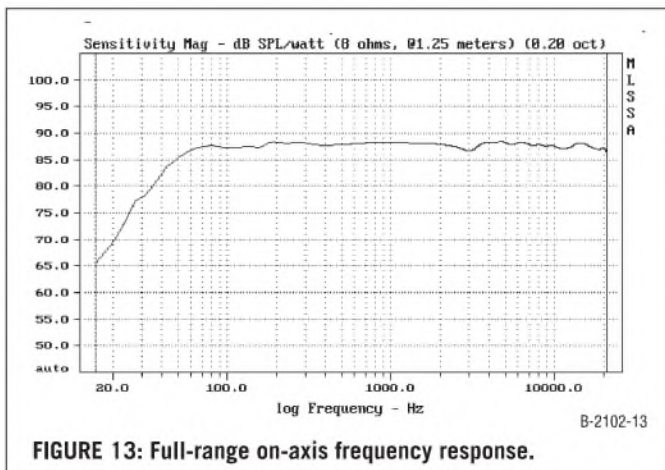

FIGURE 13: Full-range on-axis frequency response.
2. Regarding bass extension—*Figure 13* shows an LF -3 of 44Hz, with an ultimate LF slope of about 12dB/octave (similar to a closed, not vented box). As previously mentioned, I heard what I estimated to be strong 25Hz output. *Figure 13* is down about 12dB at 25Hz, so I would say room gain is helping here.
In free space, a small (re bass wavelengths) source must deliver constant air acceleration to radiate a constant sound pressure level versus frequency, because at lower and lower frequencies, less and less of a wavelength is "grabbed" by the source. Below  $f_3$  of a closed-box speaker, however, the cone excursion (and air-volume displacement) is constant; acceleration (thus SPL) falls off at 12dB/octave. *Figure 13* shows THOR to do this also.